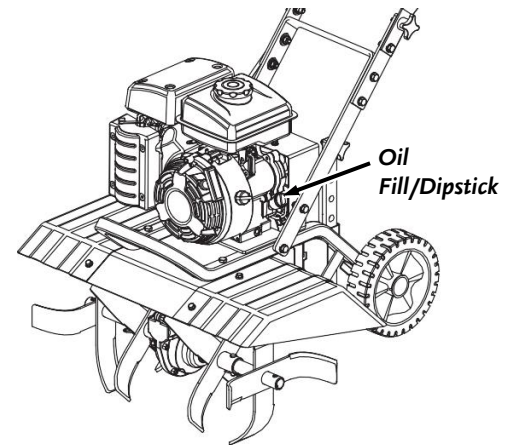

Figure 20
2. Remove the Oil Fill Cap/Dipstick on the left side of the Engine (**Figure 20**).